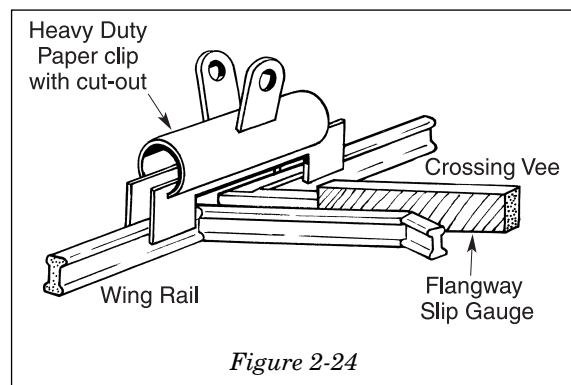

Figure 2-24
3. If the crossing and wing rails are not pre-assembled as a unit, align the curved wing rail with the crossing nose using either a straight edge or the modified spring clip and set the flangeway clearance using a flangeway slip gauge. (Figures 2-24 and 2-25). (The second wing rail can be omitted at this point if a curved metal template is to be used to align the curved closure rail).